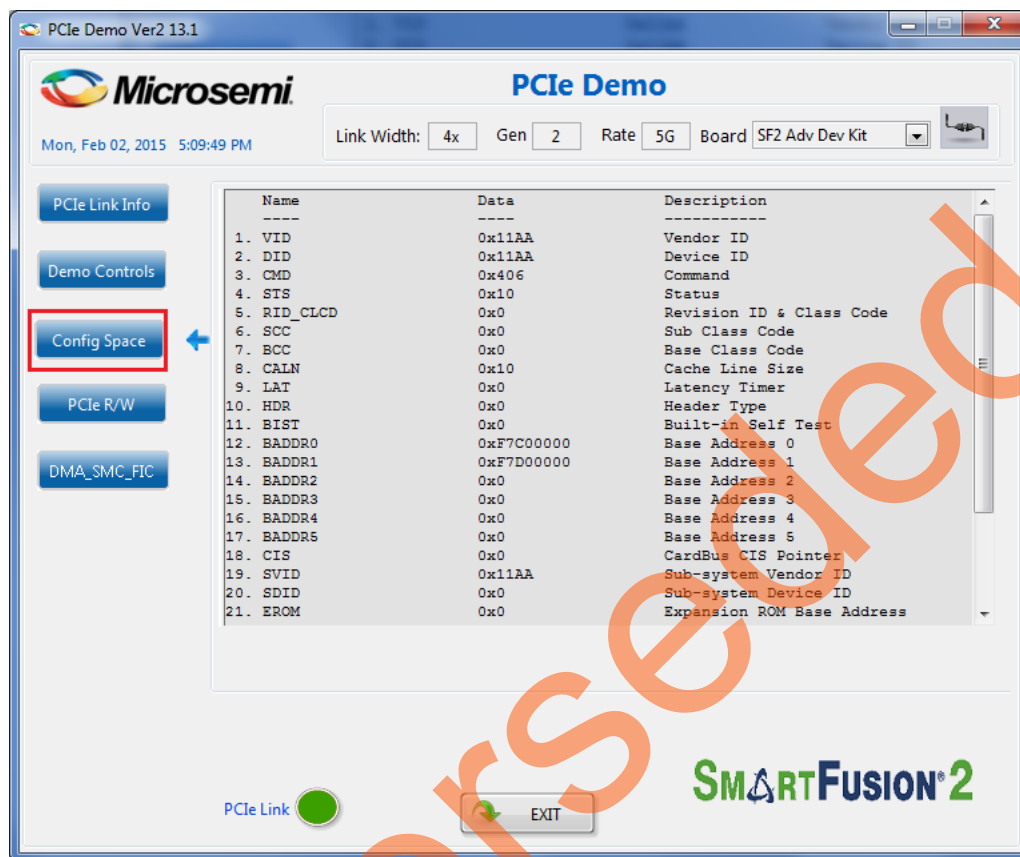

Figure 22 • PCIe Configuration Space Details
13. Click **Config Space** to see the details about the PCIe configuration space. Figure 22 shows the PCIe configuration space details.